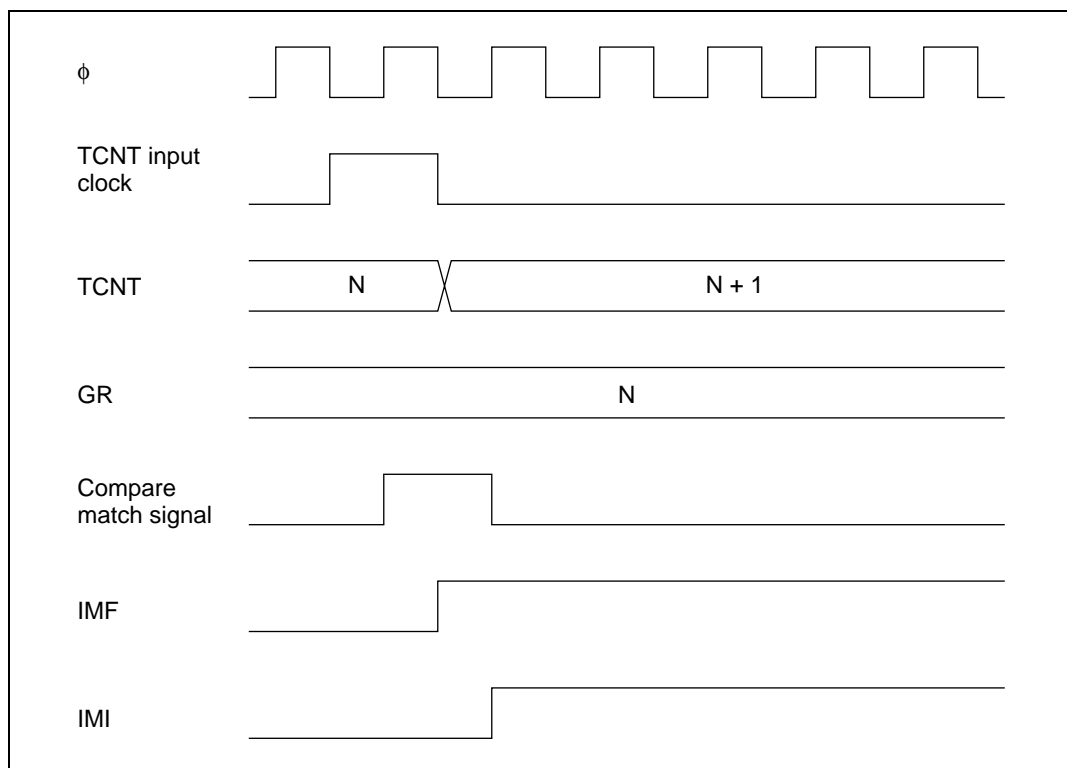

Figure 10.57 Timing of Setting of IMFA and IMFB by Compare Match
Timing of Setting of IMFA and IMFB at Compare Match: IMFA and IMFB are set to 1 by a compare match signal generated when TCNT matches a general register (GR). The compare match signal is generated in the last state in which the values match (when TCNT is updated from the matching count to the next count). Therefore, when TCNT matches a general register, the compare match signal is not generated until the next timer clock input. Figure 10.57 shows the timing of the setting of IMFA and IMFB.